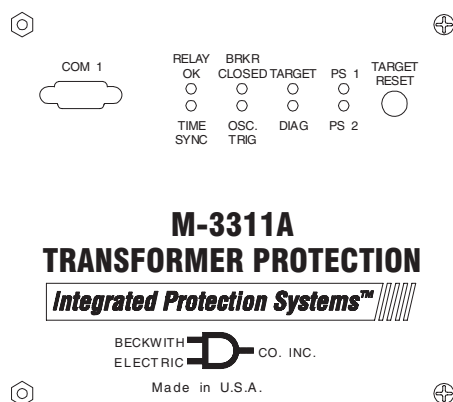

Figure 6-1 Status LED Panel
3. Repeat Step 2 for each of the 5 remaining LED's shown in Figure 6-1. The PS1 and PS2 LED's are not subject to this test.